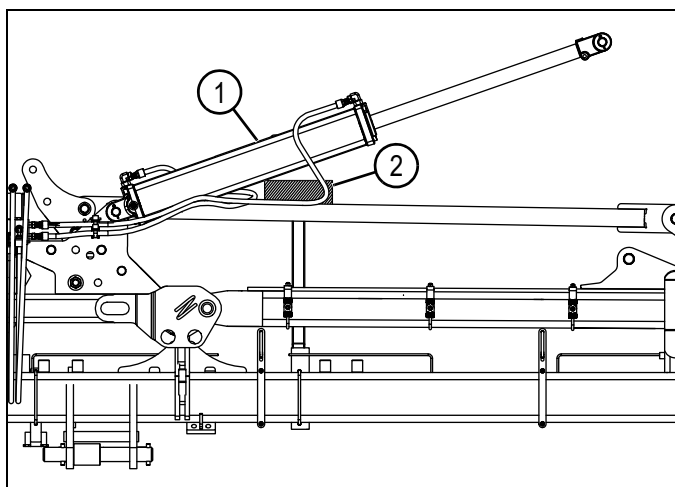

Figure 7-5: Left Wing Fold Cylinder
3. Use an appropriate lifting device to support left wing fold cylinder (1).
5. Position and support left wing fold cylinder with a block of wood (2) as shown in Figure 7-5.